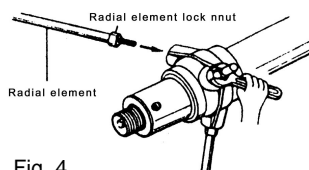

Fig. 4
4. Fasten Radials and secure lock nuts. (Figure 4.)